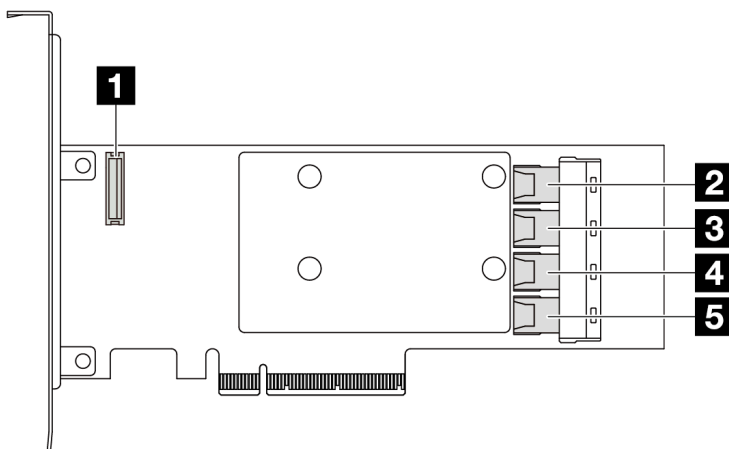

Figure 297. A Gen 3 16i SFF RAID/HBA adapter (four port connectors)
- Figure 297 “A Gen 3 16i SFF RAID adapter (four port connectors)” on page 289